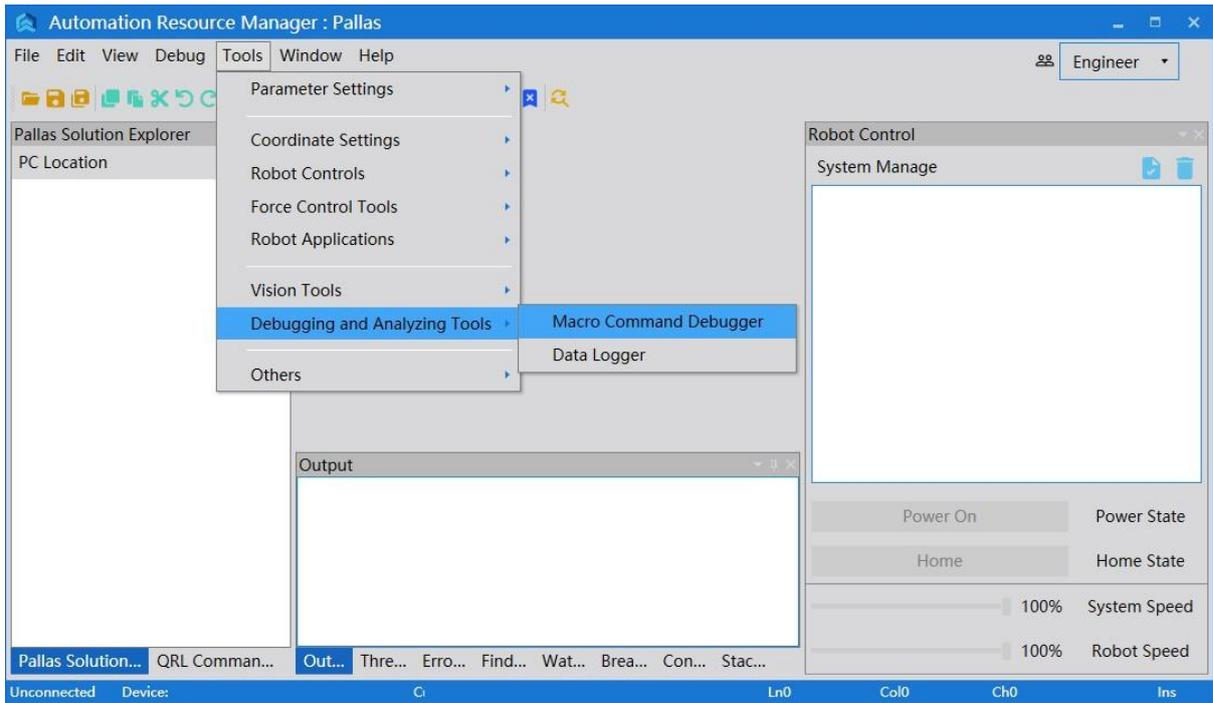

Figure 6-6 ARM interface
**Step 2** On the interface of ARM in Pallas mode, click <Tools> on the menu bar and select < Macro Command Debugger > in < Debugging and Analyzing Tools >, as shown in Figure 6-6.